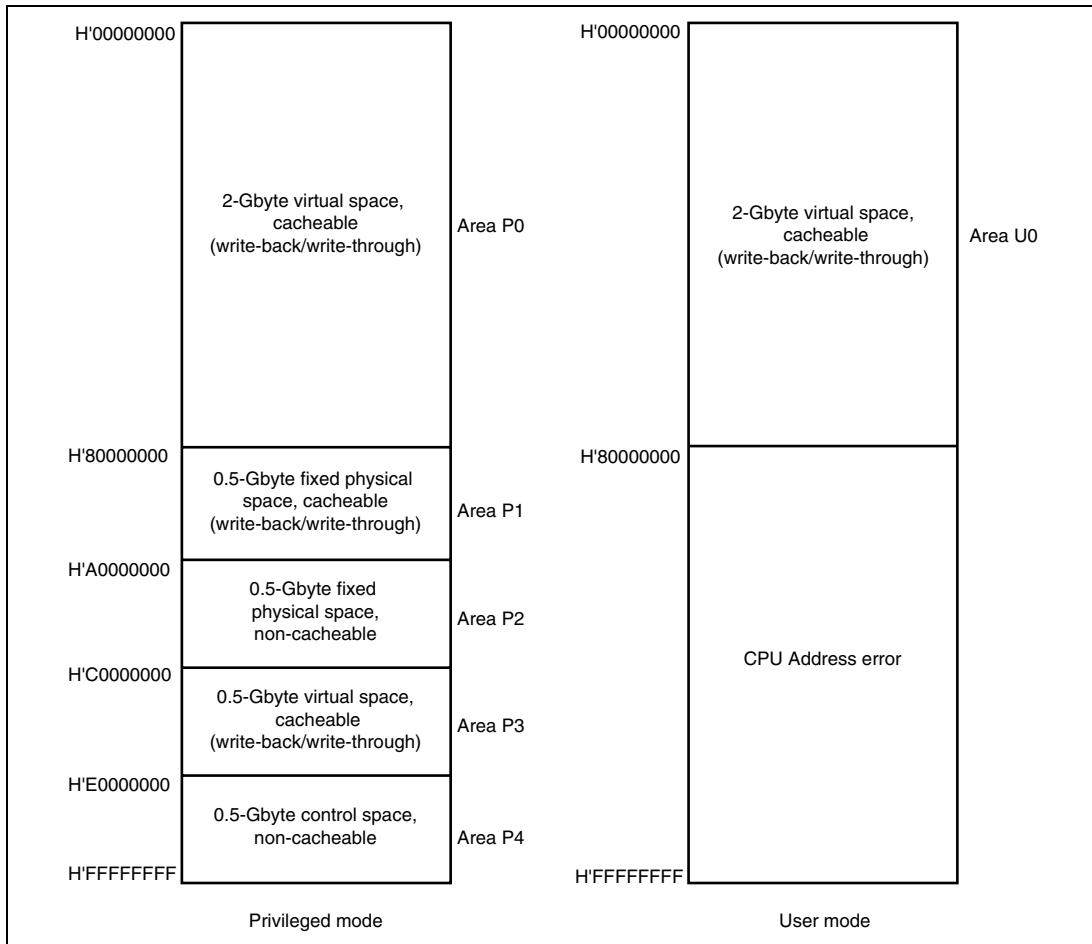

**Figure 3.2 Virtual Address Space Mapping**
**Virtual Address Map:** This LSI uses 32-bit virtual addresses to access a 4-Gbyte virtual address space that is divided into several areas. Address space mapping is shown in figure 3.2.